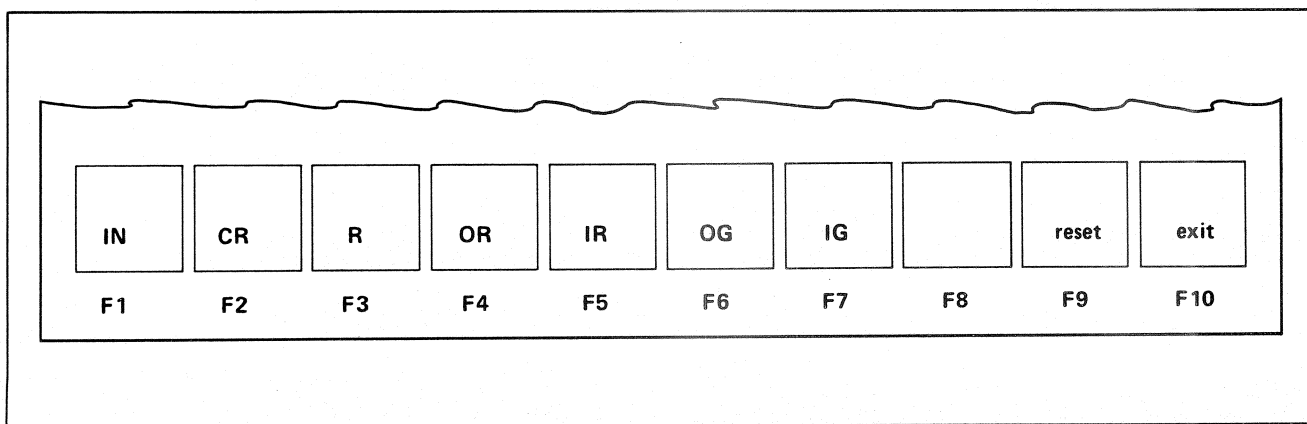

Figure 11-7. Unused I/O Selections
**Step 1** – Press the F7, UNUSED I/O, function key to display the screen shown in Figure 11-7.